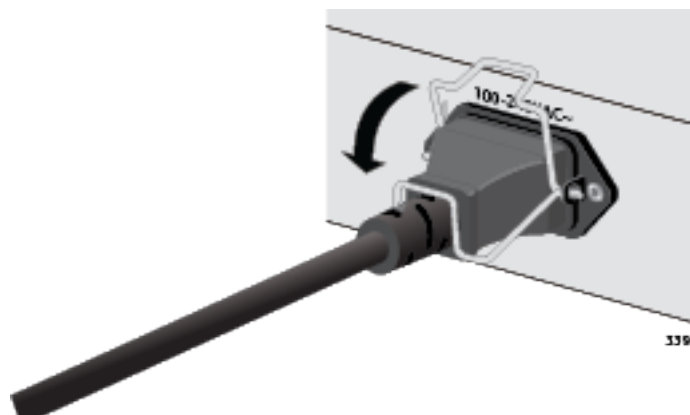

Figure 16. Lowering the Power Cord Retainer Clip
3. Lower the power cord retaining clip to secure the cord to the switch as shown in Figure 16.